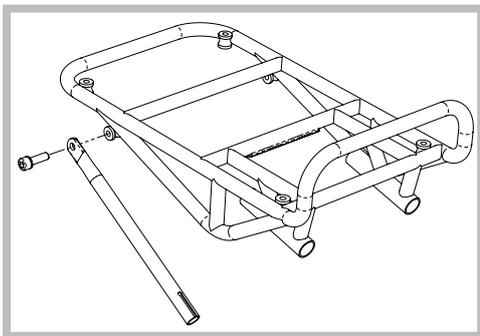

Figure 6
2. Attach the lower stay carrier onto the rack platform using Qty 1 M5x.8x16L socket head cap screw with captured washer and blue Nylon patch. Position the slot in the lower stay carrier to face towards the back of the rack (see Figure 6). Loosely tighten the M5 x 16L screw until lower carrier is attached to rack body but rotates freely. Repeat this step with the second lower stay carrier.